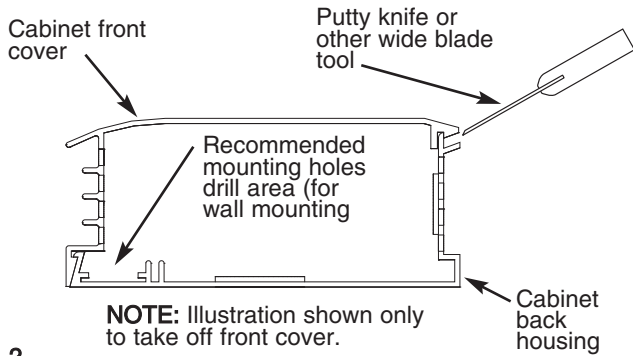

Fig. 2
16. To avoid damaging heater, do not use a screw driver to separate front cover from back housing. Use only a putty knife as shown, see Fig. 2
2. Remove front cover by laying the heater on its back and inserting a putty knife (or other thin, wide blade tool, 1" [25mm] wide minimum) approximately 6" (152mm) from the end of the heater and prying up as shown in Fig. 2. This will spring the snap lock closure open. Repeat as required down the length of the heater until the front cover completely disengages from the heater back.
4. Drill the required size mounting holes in the heater housing (See Fig. 2 for recommended mounting hole location.)
5. Drill the required size mounting holes in all the heater housings. (See Fig. 2 for recommended holes in the heater housings.)